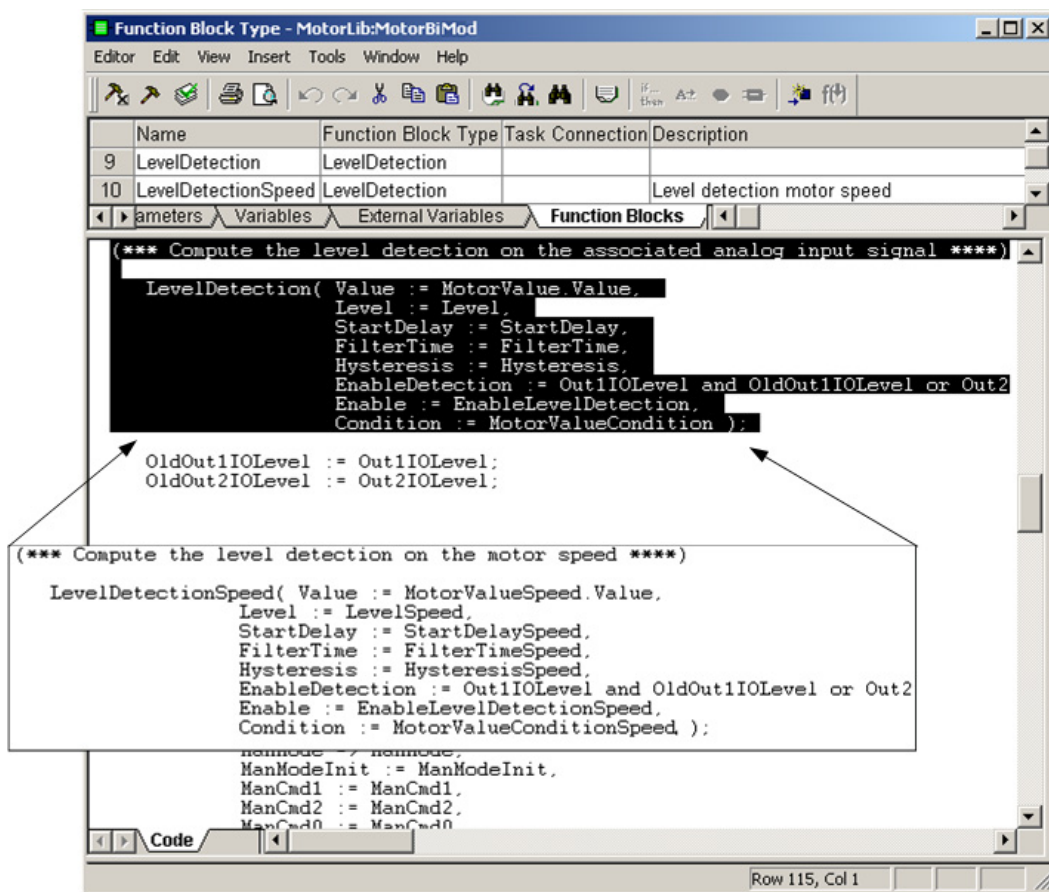

Figure 169. Level detection functionality added to the MotorBiMod function block type
4. According to Figure 169, declare the new function block (LevelDetectionSpeed), change the function block name in the code pane and declare the required variables. Connect the parameters by right-clicking on the function block in the code pane and selecting **Edit>Parameter list** (Ctrl+M).